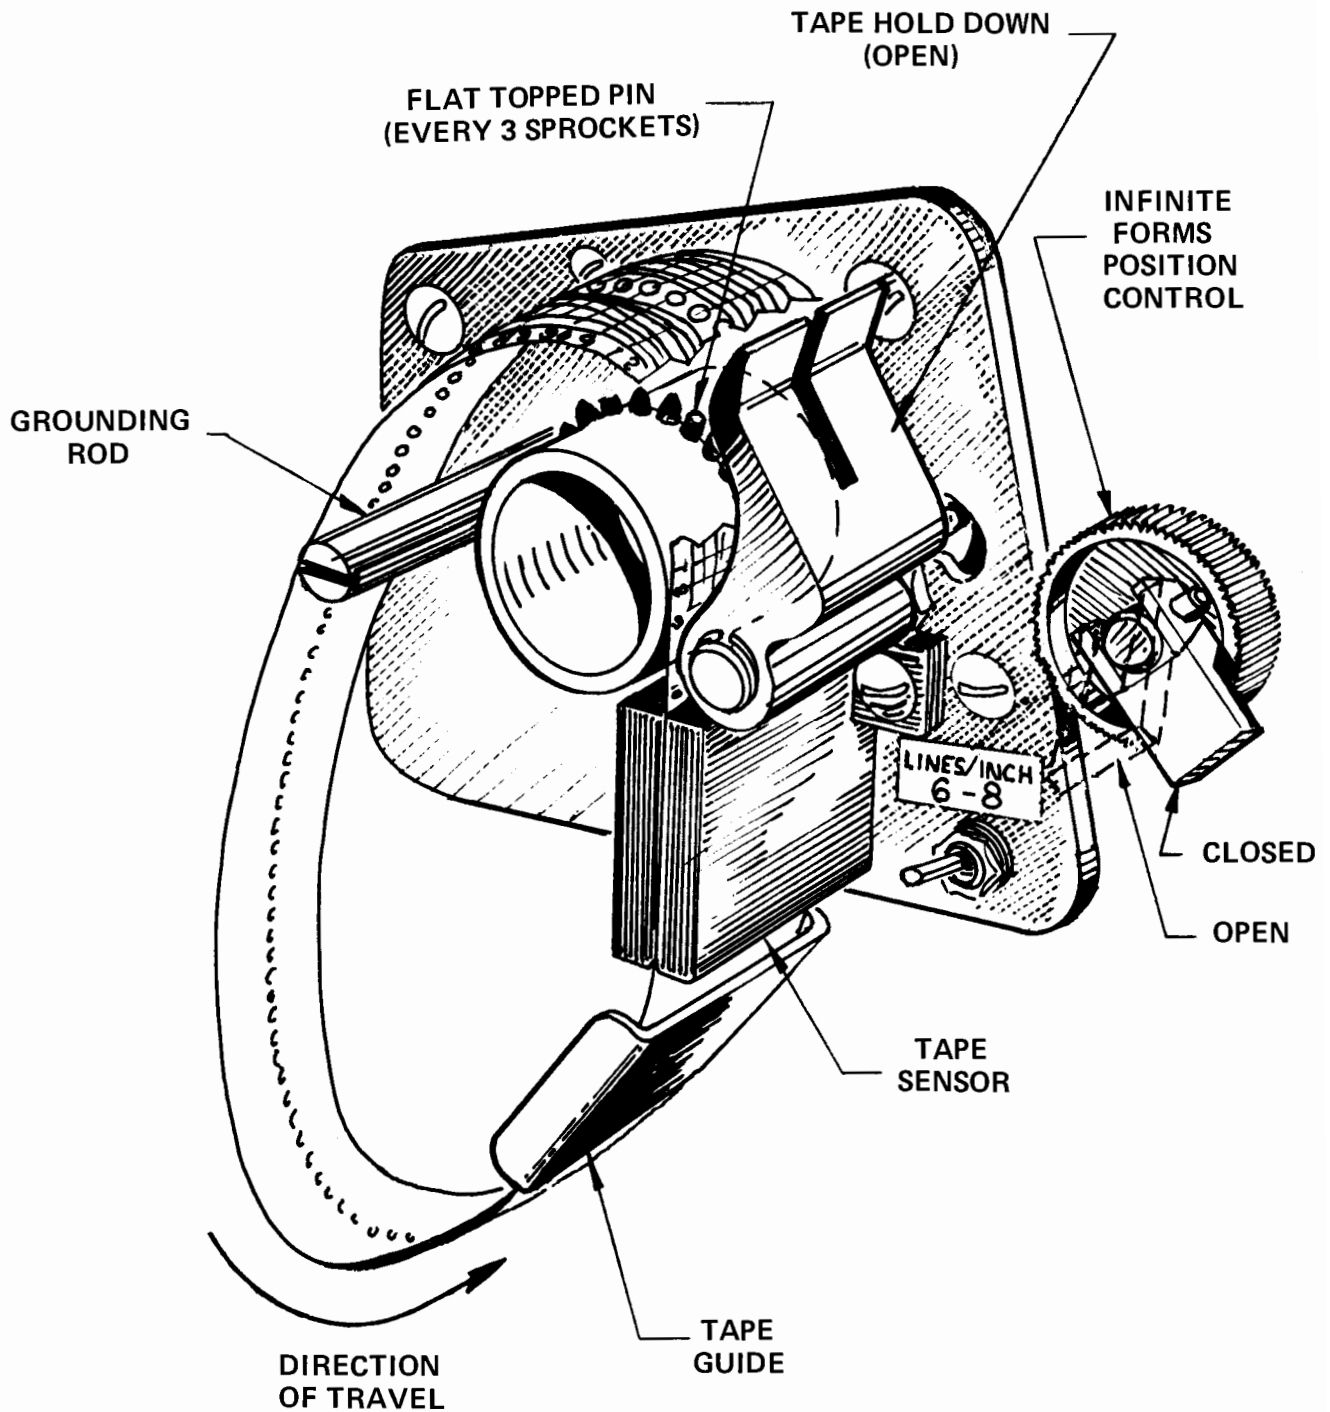

Figure 4-1. Twelve-Channel VFU and 6-8 LPI Switch (Optional)
1. Press the printer "OFF" button (initial set-up or after power loss) and slide open the panel at the upper left side of the printer to get at the VFU and optional 6/8 LPI switch, as shown on Figure 4-1.
to the VFU and the Infinite Forms Position Control (Figure 4-1). Be sure that the proper format tape information was put into memory and that the optional 6/8 LPI switch is in the proper position.